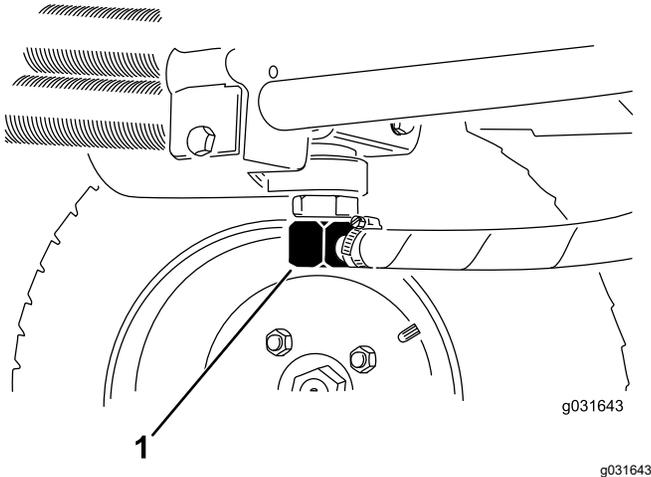
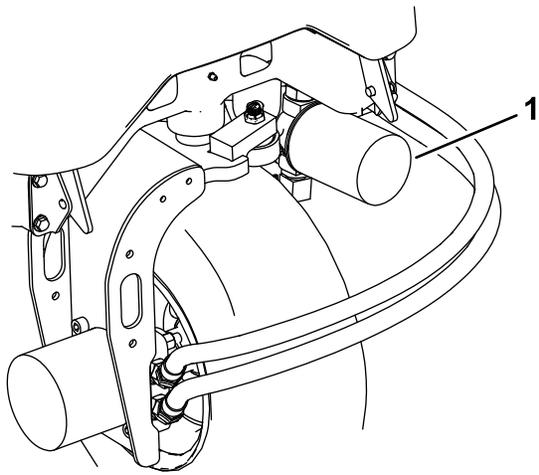

Figure 60
Figure 62
2. Disconnect the hydraulic line or remove the hydraulic filter and let the hydraulic fluid flow into a drain pan (Figure 62 and Figure 60).
3. Install the hydraulic line when the hydraulic fluid stops draining (Figure 60).
3. Clean around the filter-mounting area, place a drain pan under the filter, and remove the filter (Figure 62).